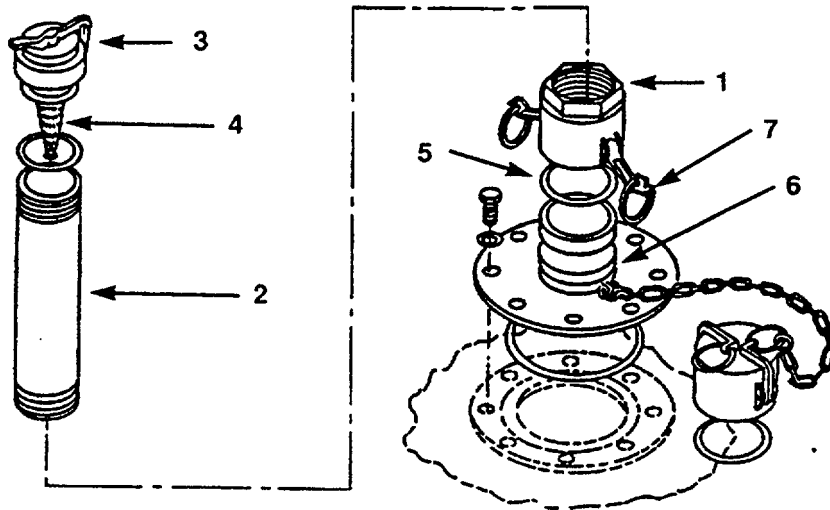

Figure 4-6. Vent and pipe assembly
- (2) Attach Drain Hoses and Fittings.
- (g) Inspect female coupling half (1) and vent pipe (2) for cleanliness. (See figure 4-6)